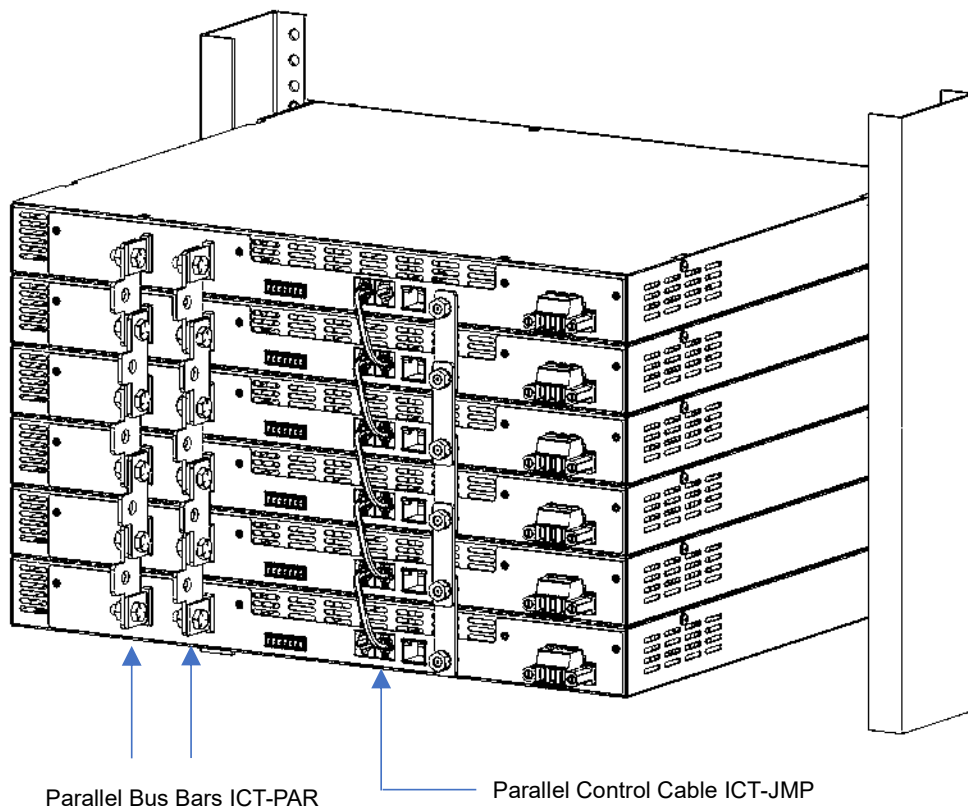

Figure 6. Primary and Secondaries Connected in Parallel
1. Connect the positive terminals (labelled "POS") of each unit together at a common positive load point using the Parallel Bus Bars (ICT-PAR) as shown in Figure 6. See Section 2.13.
4. Connect the "SHARE A" port on the first unit to the "SHARE B" port on the second unit using the Parallel Control Cable (ICT-JMP) as shown in Figure 6. If there will be more than two units connected in parallel, repeat this step for each unit as shown in Figure 6. This will allow the Primary power supply to control the Secondary power supplies.